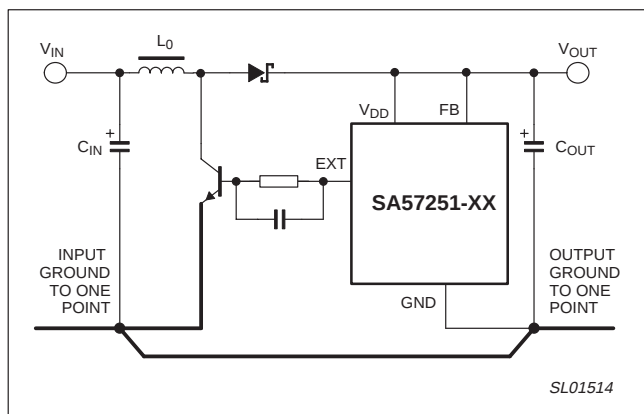

Figure 25. Grounding trace for converter.
The input and output capacitors are the only source or sink of the high frequency currents found in a switching power supply. All connections to the switching power supply from the outside circuits should be made to the input or output capacitor terminals (+ and –). Internally, the layout should adhere to a “one-point” grounding system, as shown in Figure 25.
- Strictly adhere to the one-point wiring practices shown in Figure 25.